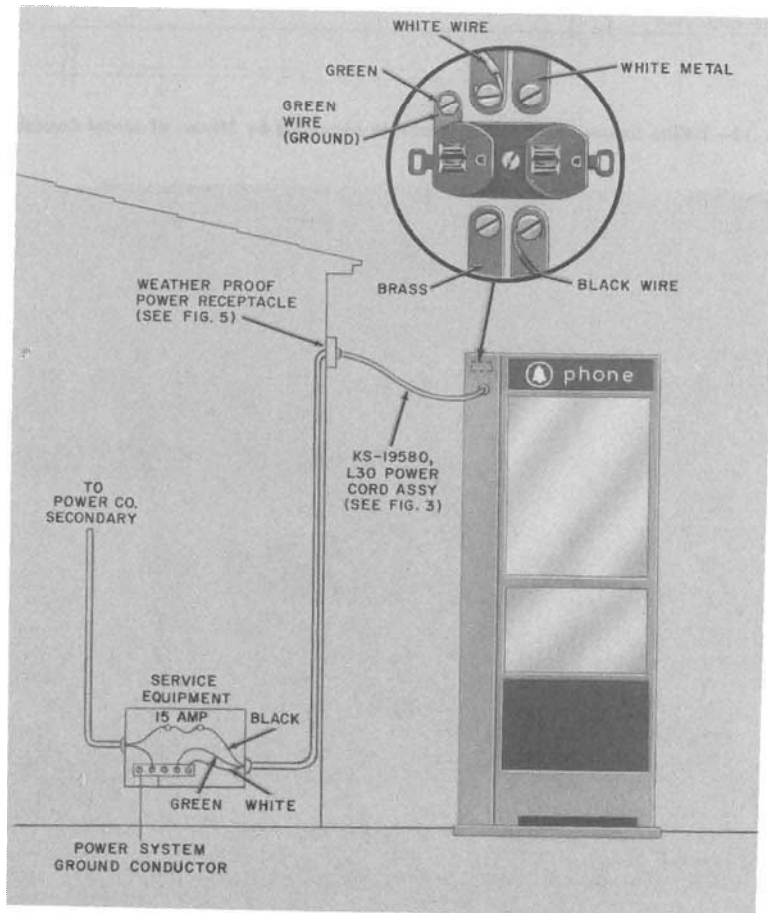

Fig. 11—3-Wire Extension of Branch Circuit to Booth By Means of Power Cord
**8.05** Fig. 11 through 14 show various applications for extending branch circuit.